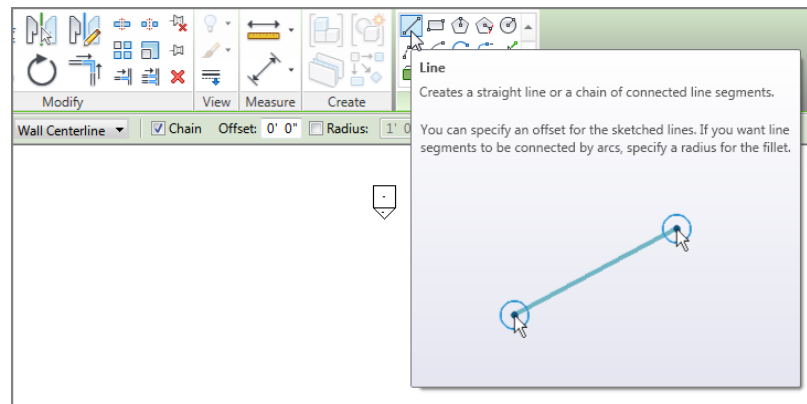

FIGURE 1.15: You can draw any shape you need.
4. The Draw panel has a series of sketch options. Because this specific wall is straight, make sure the Line button is selected, as shown in Figure 1.15.